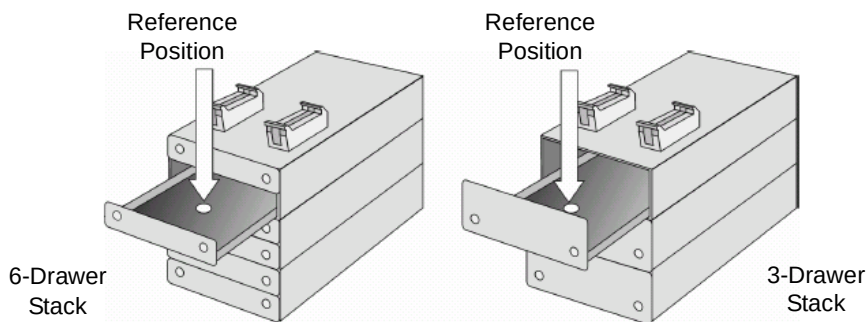

Figure 2-41 Stack Reference Positions
The reference position for a 6-drawer stack is a hole located in the second drawer from the top (Figure 2-41, left). For a 3-drawer stack, the reference position is in the top drawer (Figure 2-41, right). The reference position for a 3-drawer heater cooler stack is the same as that for a 3-drawer stack. In all stacks, center the lower needle guide in the reference hole (in the X and Y directions), with the bottom of the needle guide flush with the bottom of the drawer (in the Z direction).
3. Select Position X, then press Enter. The syringe moves to the predefined X-axis position and the allowed values for the parameter appear in the status bar. Center the lower needle guide in the reference hole (Figure 2-41) as follows: